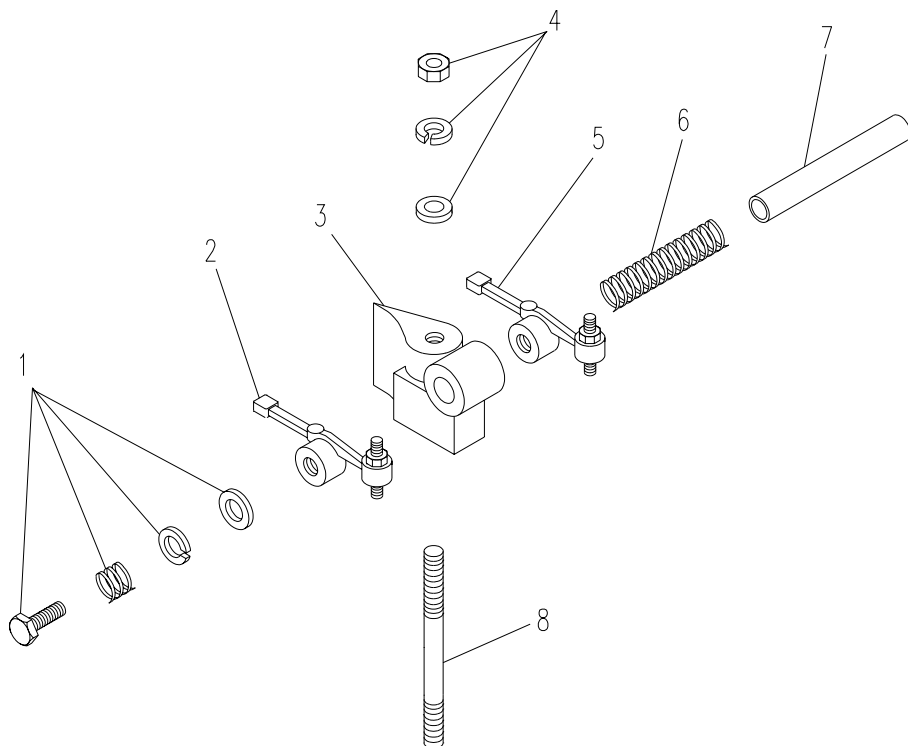

Figure 5-28. Rocker Arm Assembly
- (1) Remove one bolt, thrust spring, lock washer, and flat washer (1, Figure 5-28) from end of rocker arm assembly.
- (2) Remove first rocker arm (2), rocker arm bracket (3), second rocker arm (5), and first rocker arm spring (6) from rocker arm shaft (7).
- (3) Repeat step 2 for remaining rocker arms, brackets, and spring.
- c. Use inside micrometer caliper to measure the inside diameter (ID) of the first rocker arm (2). ID should be between 0.41339 in. (10.5 mm) and 0.41410 in. (10.518 mm).
- d. Use outside micrometer caliper to measure the outside diameter (OD) of the rocker arm shaft (7). OD should be between 0.41233 in. (10.473 mm) and 0.41276 in. (10.484 mm).